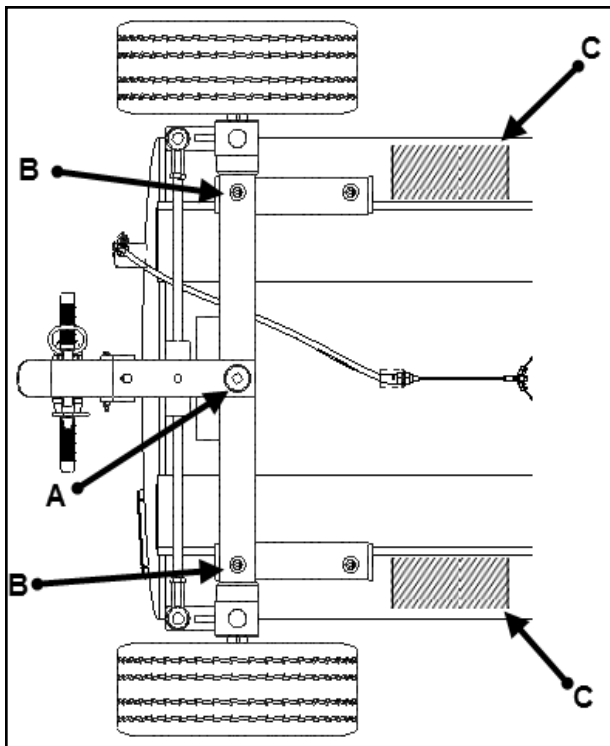

Figure 4-4 Lift Points
- Raise equipment with suitable maintenance jack (see Figure 4-4, reference arrow A for jack placement) high enough to remove wheel assembly.
- Place approved jack stands under front axle (see Figure 4-4, reference arrow for stand placement).
To remove the entire Front Undercarriage assembly, the equipment must have the front end raised. See Figure 4-4 for lift points.
- a. Raise equipment with suitable maintenance jack (see Figure 4-4 arrow A for jack placement) to allow four inches of space between the wheels and ground.
- b. Place cribbing under tank skids (see Figure 4-4, reference arrows C) to safely support the equipment.
- e. Remove bolts (2) and nuts (3).
- g. Pull Front Undercarriage forward. Note location of rubber mounting pads (5).
- a. Raise equipment with suitable maintenance jack high enough to remove wheel assembly. (see Figure 4-4, arrow A for jack placement) .
- b. Place approved jack stands under rear axle (see Figure 4-4 , arrow B for stand placement).